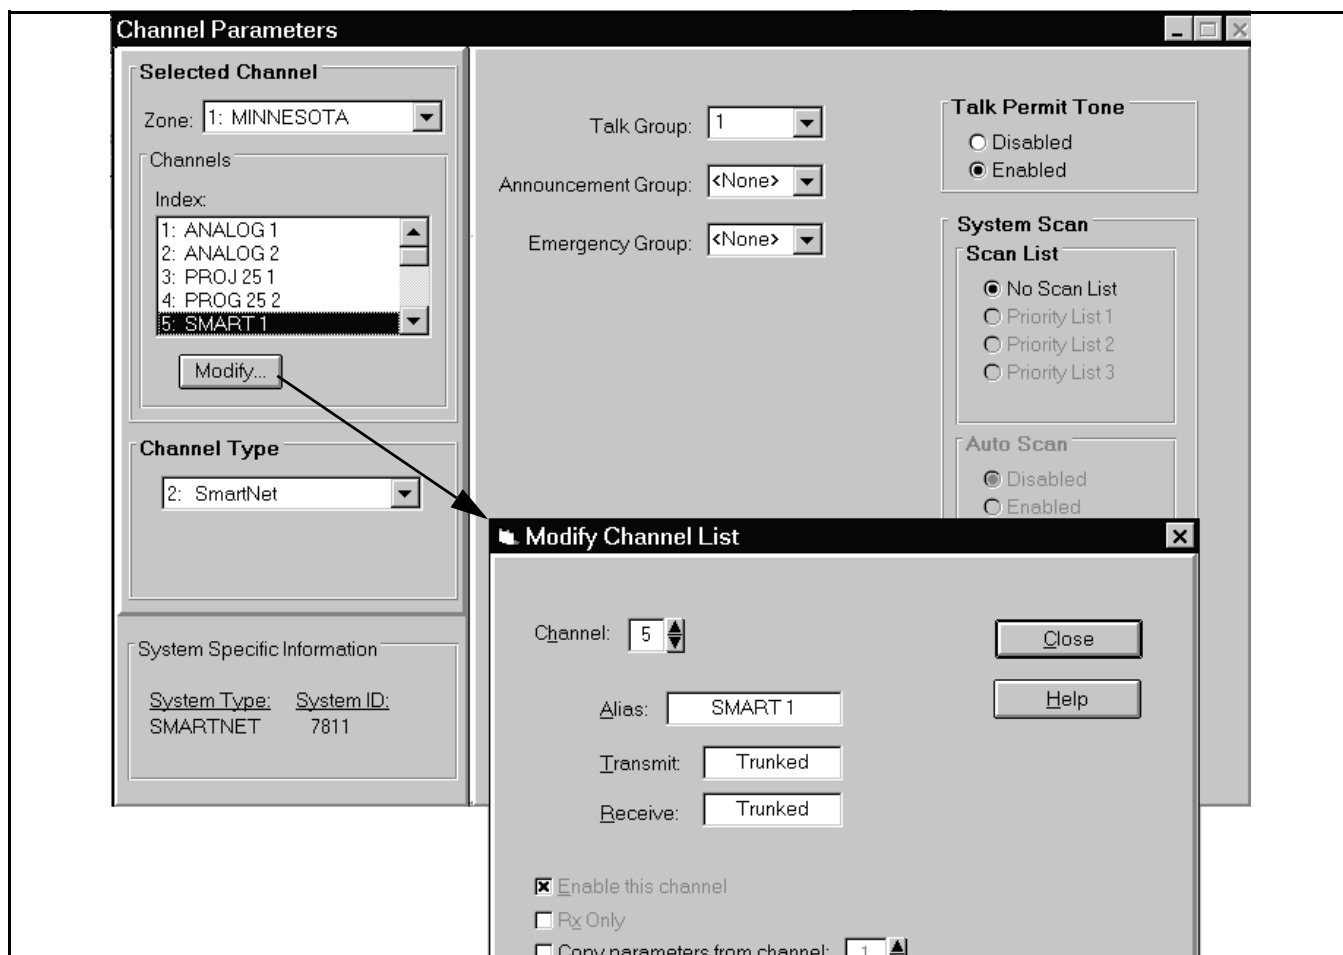

Figure 3-5 SMARTNET/SmartZone Channel Screen
The SMARTNET/SmartZone Channel screen shown in Figure 3-5 is displayed when the SMARTNET or SmartZone channel type is selected. The channel screen programs unique channel parameters and also assigns channels to the selectable zones displayed by the transceiver.
4. Click the Modify button to display the dialog box shown in the lower part of Figure 3-5. This box programs the alias (tag) that is displayed when it is selected.
The following parameters are programmed in the SMARTNET/SmartZone channel screen shown in Figure 3-5.
Modify... - Displays the screen shown in the lower part of Figure 3-5. The parameters programmed in this screen are as follows: